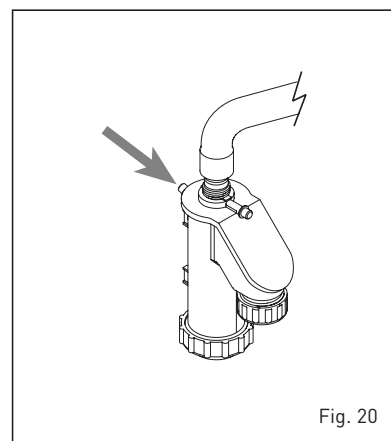

Fig. 20
4.5 MAINTENANCE (fig. 20)
ciency it is important that the boiler is serviced at regular intervals, at least once a year (this may also be a condition of the warranty). Servicing must only be done by a qualified technician. It is recommended that the service should include the removal and inspection of the burner and its insulation. On completion a combustion analysis must be done. During the routine service the condensate drain can be checked, by carefully pouring water into the combustion chamber, while the burner is removed. Should the boiler not be used for long periods of time, it is important that the condensate trap is checked and filled if required. It can be filled via the filling vent, see fig 20.